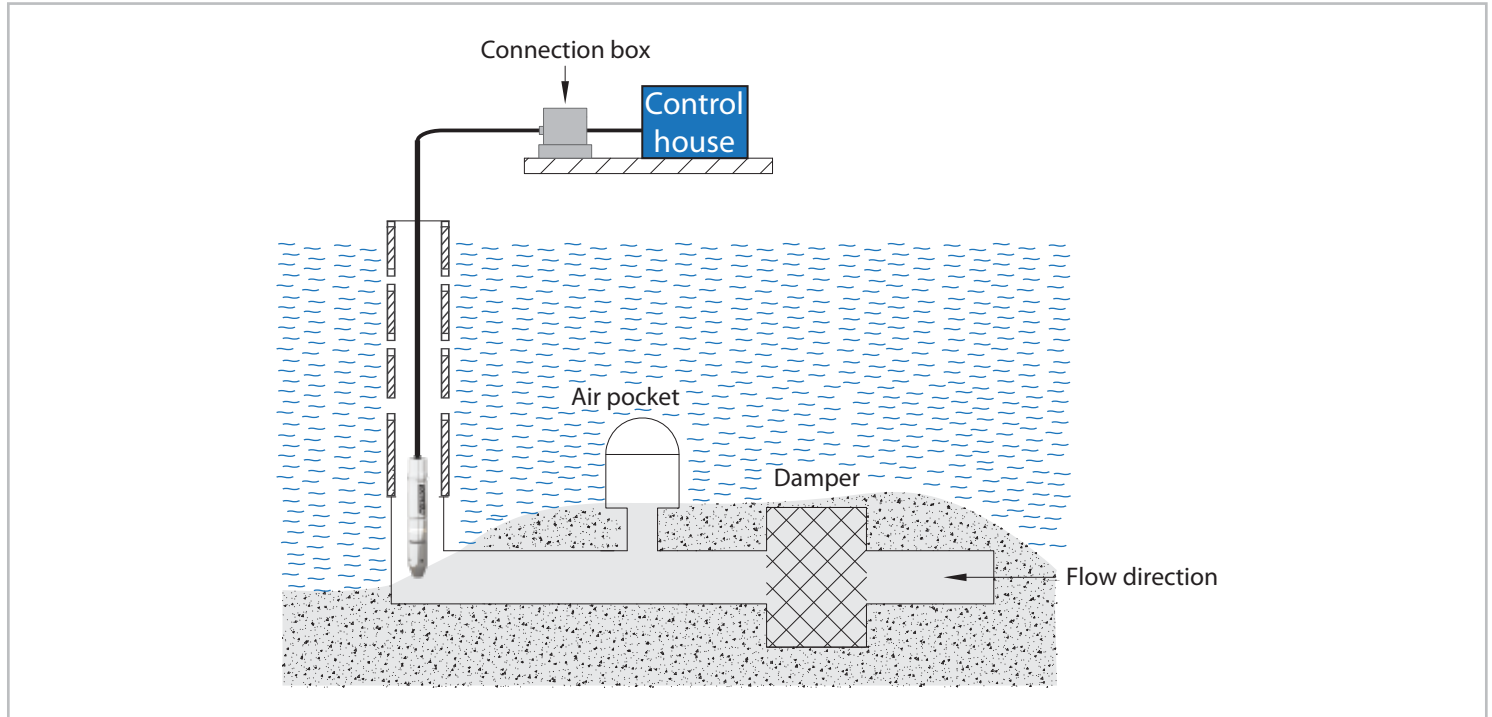

Fig. 5. Superficial burying
- **Method Two:** Fig. 5 shows the superficial burying is done in the sand and stone channel.